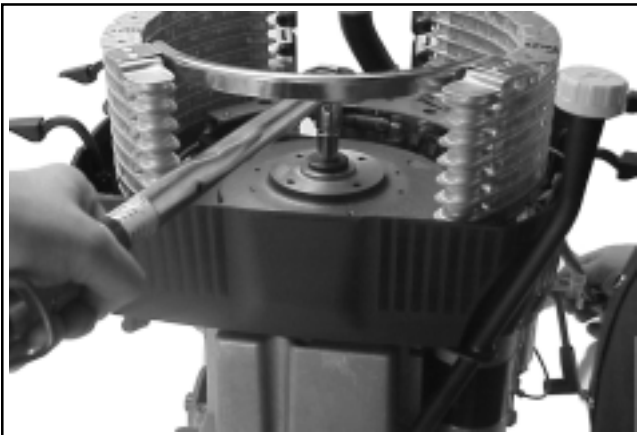

Figure 11-86. Torquing of the Flywheel Mounting Screw and Washer.
- Use a flywheel holding tool to hold the flywheel and torque the screw to **66.4 N·m (49 ft. lb.)**. See Figure 11-86.